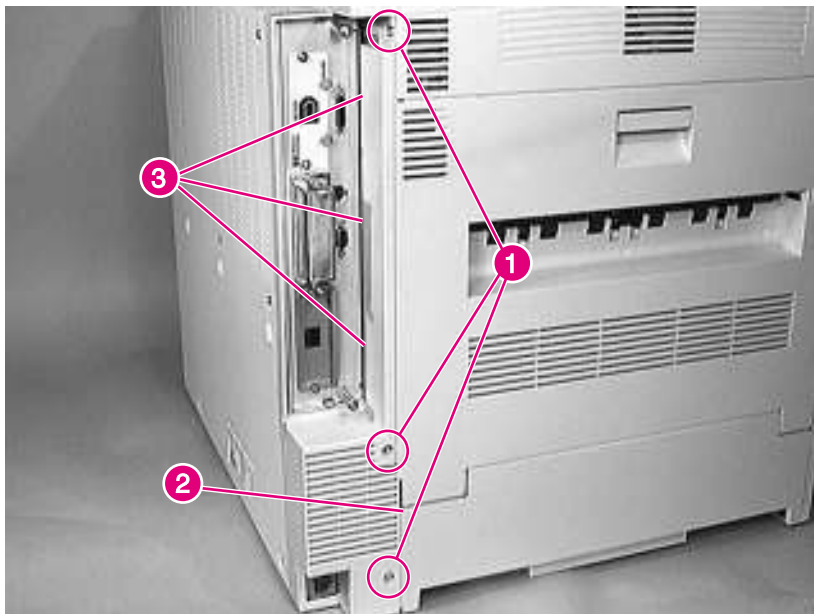

Figure 6-5 AC Access Cover
- 2 Remove 3 screws (figure 6-5, callout 1).
- 1 Insert the panel edge (figure 6-5, callout 2) inside the back cover (if installed).
- 2 Be sure to insert the three alignment tabs (figure 6-5, callout 3) into their slots before replacing the screws.
- AC Access Cover (see figure 6-5 on page 272)